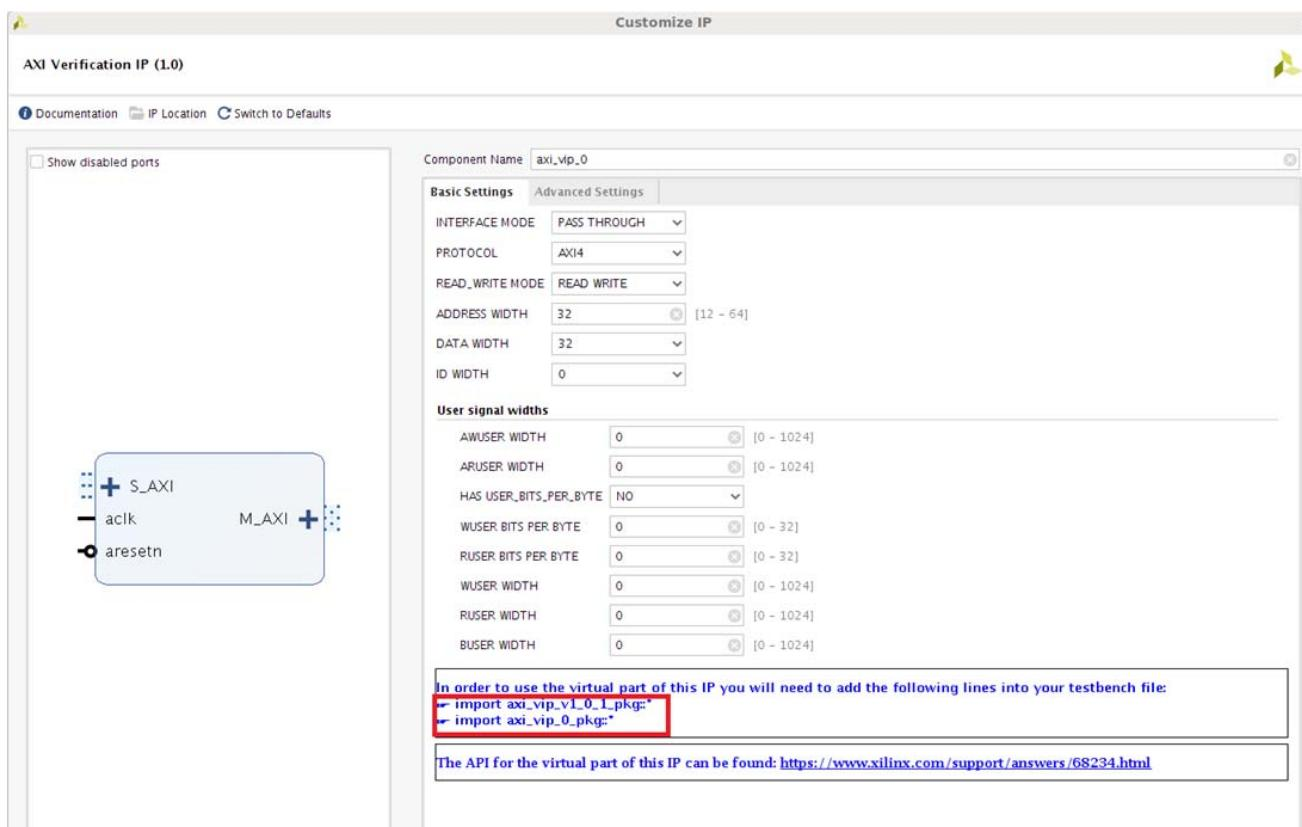

Figure 6-5: Component Name Location
2. Import two required packages: `axi_vip_v1_0_1_pkg` and `<component_name>.pkg` as shown in Figure 6-5. The `<component_name>.pkg` includes agent classes and its subclasses for AXI VIP. For each VIP instance, it has a component package which is automatically generated when the outputs are created. This component package includes a `typedef` class of a parameterized agent. Xilinx recommends importing this package because reconfiguration of the VIP has no impact of the test bench.